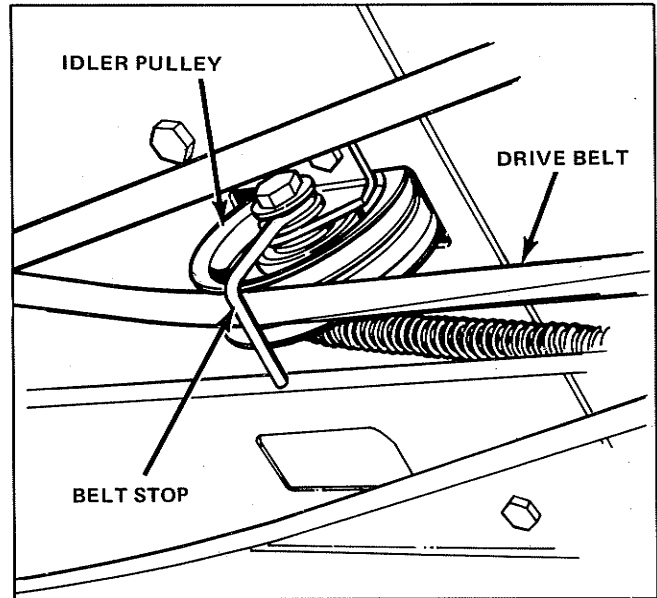

Figure 25. Drive Belt Replacement
2. Loosen the belt stop from the frame idler pulley (figure 25). Remove the belt from the engine drive pulley.
4. Replace the new belt on the tractor in the reverse order of the above steps, taking care to replace the idler pulley belt stop. The idler pulley belt stop should be positioned so that it is facing straight downward on the pulley (see figure 25).